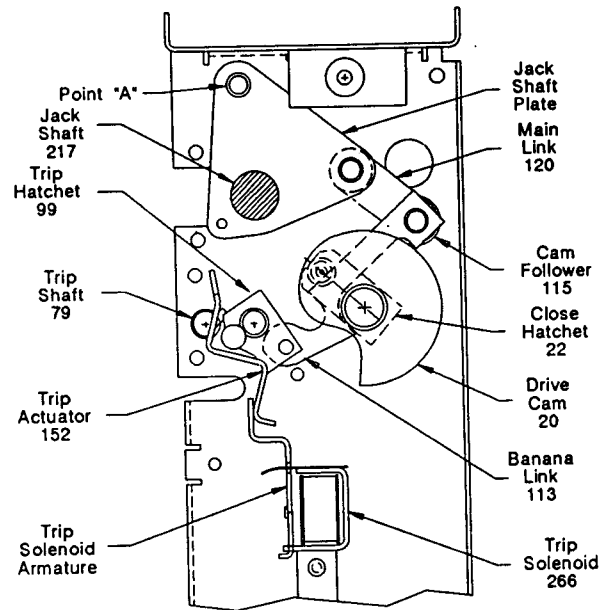
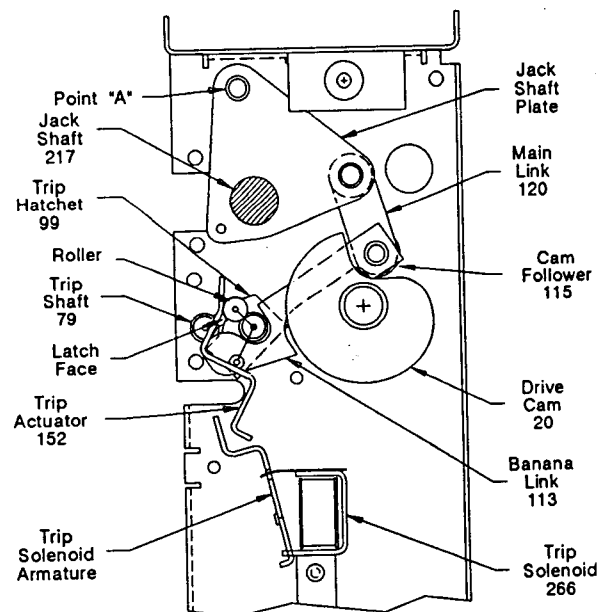
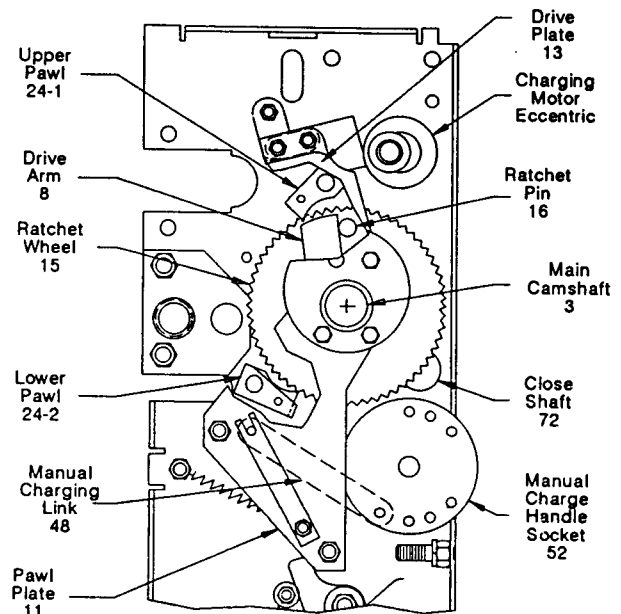
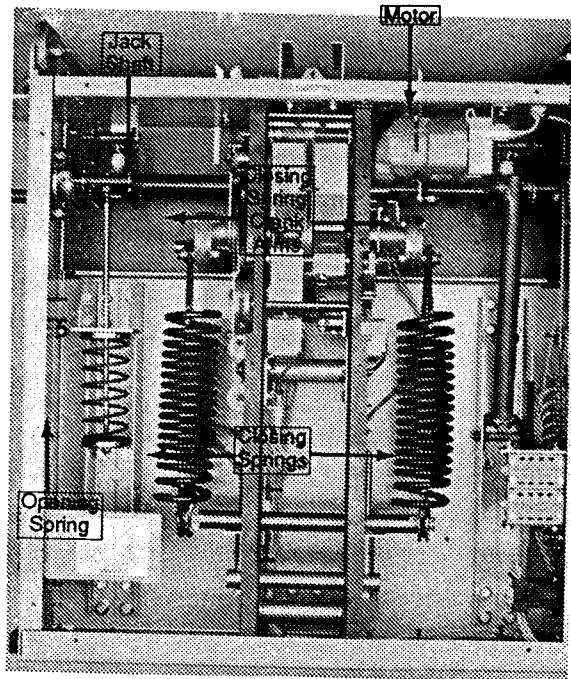

Figure 5. Breaker Open - Closing Springs Discharged
Figure 6. Breaker Open - Closing Springs Charged
Figure 7. Pawl and Ratchet Drive
Figure 9. Close and Trip Springs
Spring Charging Mode (Figures 5 and 6)
Figures 5 and 6 show several key components of the operator mechanism in positions corresponding to the breaker open, with the closing springs discharged (Figure 5) and charged (Figure 6). Figure 7 shows portions of the operator mechanism that manually or electrically charge the closing springs. The drive cam (20), the closing spring crank arms (Figure 9) and spring condition indicator cam (18) are directly keyed to the main cam shaft (3). The main cam shaft rotates counterclockwise. The closing springs are attached to the crank arms, and are extended during the charging cycle.
Figure 7 shows the ratchet wheel (15) which is free to rotate about the main cam shaft (3). The ratchet wheel is driven by either the charging motor or the manual charge handle socket (52). When the springs are charged electrically, the motor eccentric (100) introduces a rocking motion into the drive plate (13). As this plate rocks back and forth, the upper pawl (24-1) (which is connected to the drive plate) imparts counterclockwise rotation of the ratchet wheel (15), one tooth at a time. The lower pawl (24-2) acts as a holding pawl during electrical charging.
If at any time during breaker closing, the trip shaft (79) (Figure 5) operates as a result of either an electrical or mechanical trip, the trip hatchet (99) is free to rotate. When the trip hatchet (99) rotates, cam follower (115) is displaced by the drive cam (20) without motion of the jack shaft (217). Mechanical trip free operation is provided by manual tripping or electrical tripping.
Opening or tripping the vacuum interrupter contacts is accomplished by rotation of the trip shaft (79). Rotation may be produced either electrically by energizing the trip solenoid (266) (Figure 6), or manually by pressing the trip button. Energizing the trip solenoid causes the lower arm of the trip actuator (152) to rotate counterclockwise. Pressing the trip button causes the trip actuator upper arm to move, again producing rotation of the trip shaft. All of the linkages are trip free, and tripping or opening is unaffected by the charging status of the closing springs or position of the drive cam (20).
The stored energy assembly consists of dual closing springs and a single tripping spring. Figure 9 shows the three springs and their linkages. The two closing springs are connected to crank arms mounted on the rotating main cam shaft. The closing springs are tensioned (charged) by rotation of the crank arms connected to the movable ends of the springs. The fixed ends of these springs are attached to a support arm, which in turn is bolted to the structure of the operator.